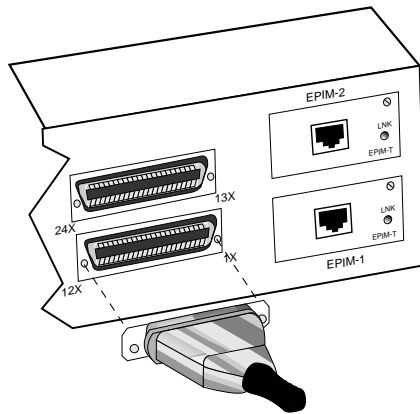

Figure 4-2. SEHI-32/34 Network Ports
1. Connect a 50-pin feeder cable to the Champ connector on the SEHI as shown in Figure 4-2.